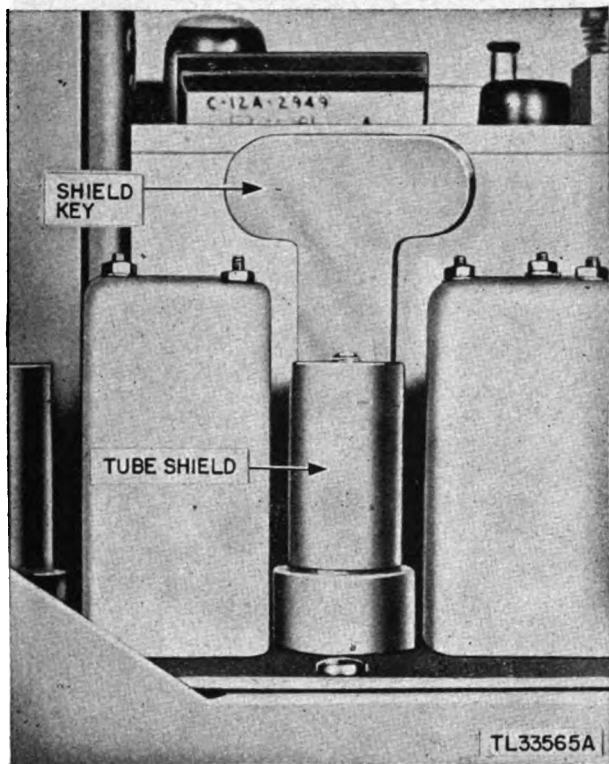

Figure 25. Removing tube shield with shield key.
(1) Check tubes for cleanliness. Remove tube shields ① from the tubes with the shield key (fig. 25).